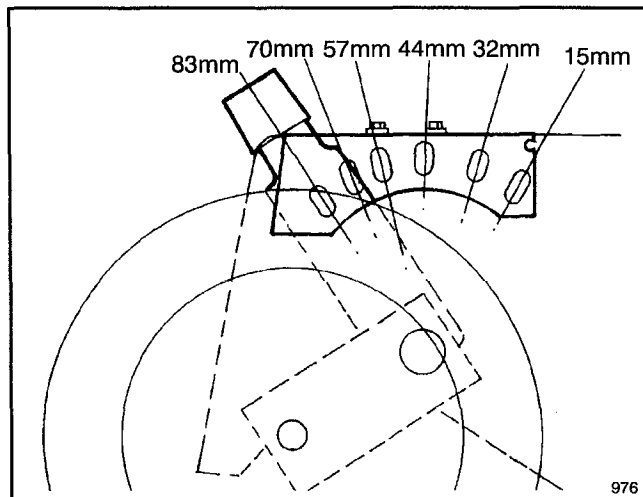

Figure 7
- Grass grows at different rates at different times of the year. In the heat of the summer, it is generally best to cut grass at the 44 mm (1-3/4"), 57 mm (2-1/4") or 70 mm (2-3/4") height-of-cut settings (Fig. 7). Only about 1/3 of the grass blade should be cut off. Cutting below the 44 mm (1-3/4") setting is not recommended unless grass is sparse or it is late fall when grass growth begins to slow down.